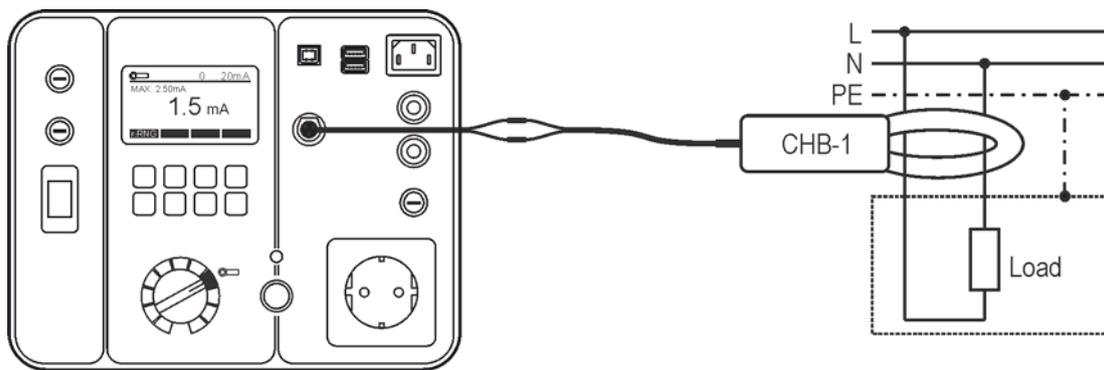

Figure 27: Earth leakage current test connection (differential method)
- Connect the clamp according to one of the figures 27, 28 or 29, depending on which current one wish to measure.